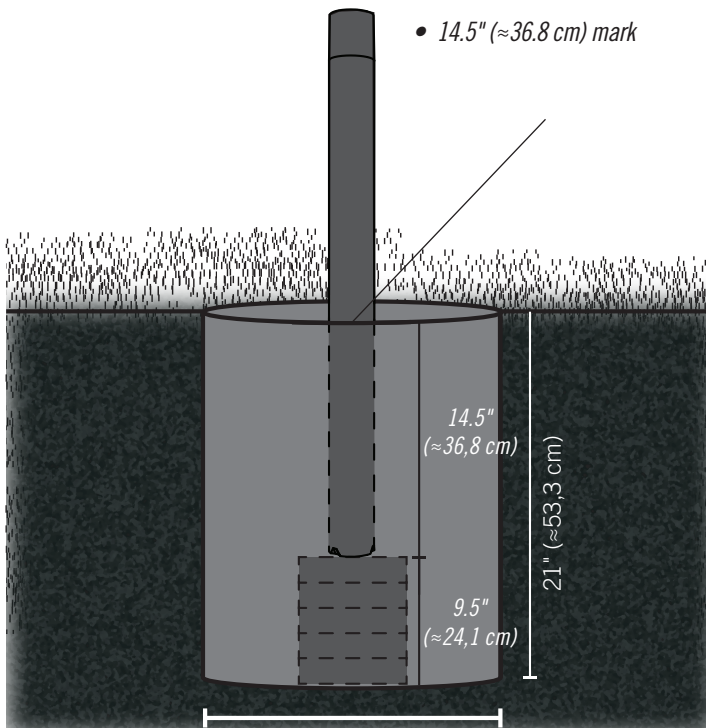
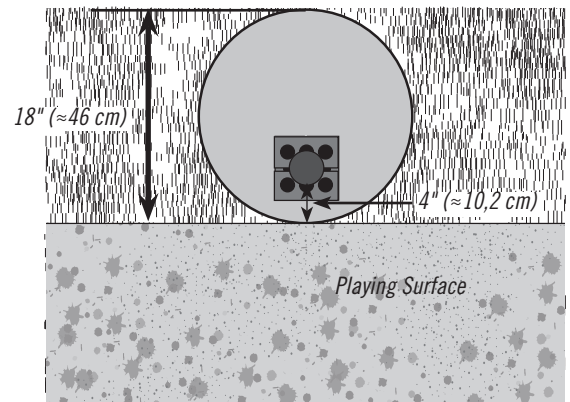

Fig. 1
Fig. 2
- Set the bottom of the bottom pole onto the bricks or patio blocks. The 14.5" (≈ 36.8 cm) mark on the pole should be flush with the playing surface (Fig. 1). If it is not flush, the system will not adjust to the correct heights. The edge of the pole should be 4" (≈ 10.2 cm) from the playing surface (Fig. 2) to ensure the backboard overhangs the playing surface. If it is not, adjust it.